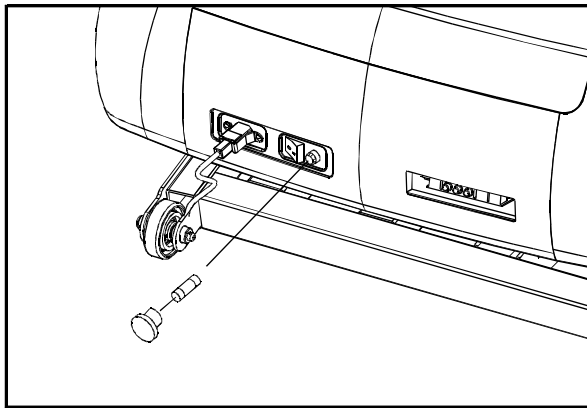
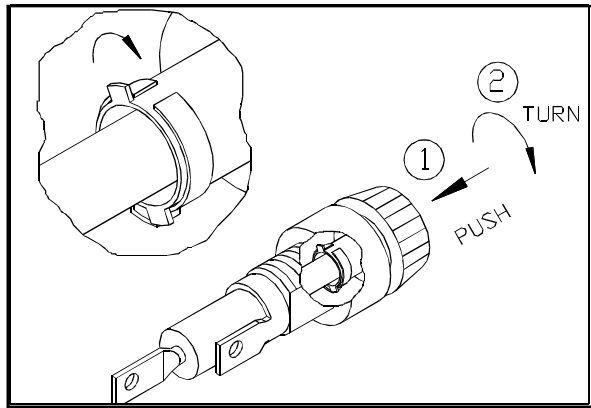
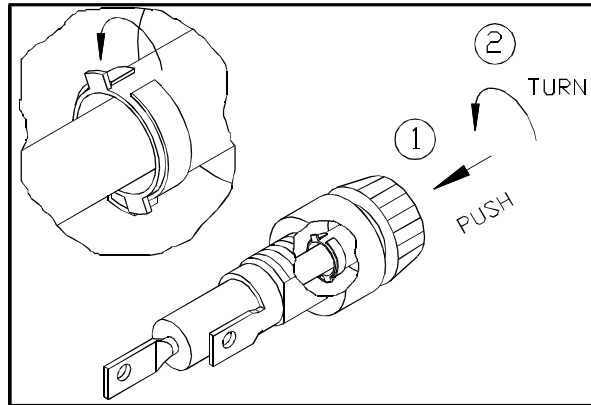

Fig.13-1
Fig.13-2
Fig.13-4
10. Do not over-tighten the belt. Over-tightening the walk belt can shorten the life of the unit. Please see Fig. 13-2 and 13-3.
Main power fuse holder located at bottom of the machine, near the on/off switch. (See Fig.13-1) To remove the main fuse, push the fuse holder toward the machine and turn it counterclockwise, then pull out the fuse holder. Remove the fuse from the holder. Insert a new fuse of the appropriate type into the fuse holder and insert it into the unit. Turn the fuse holder clockwise to secure the fuse in place. (See Fig. 13-2 to Fig. 13-4.)